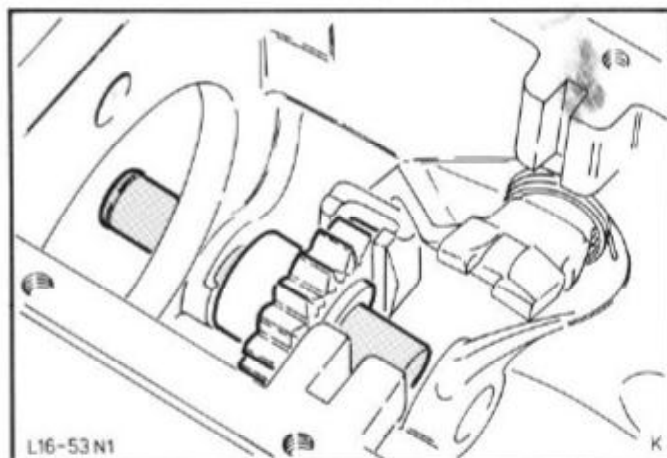

Fig.137. Install reverse idler gear.
43. Install reverse idler gear with the thicker shoulder facing the rear. Insert idler gear in selector dog, slide the shaft in and drive it in with a copper hammer, Fig.137.